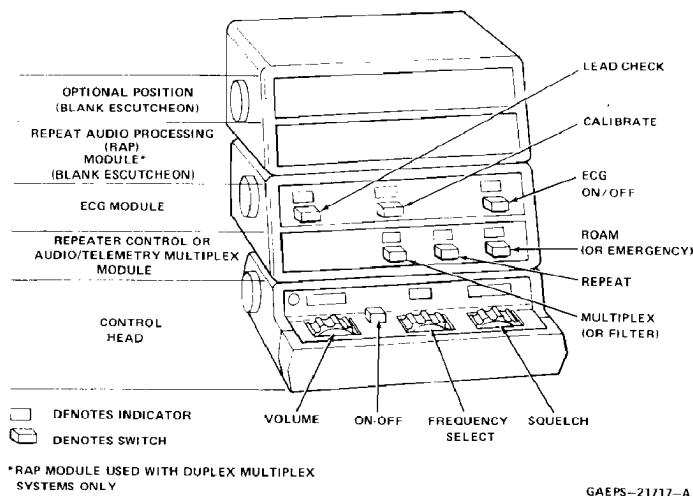

Figure 1. Control Group Operating Controls and Indicators
1.1 CONTROLS AND INDICATORS (See Figure 1)